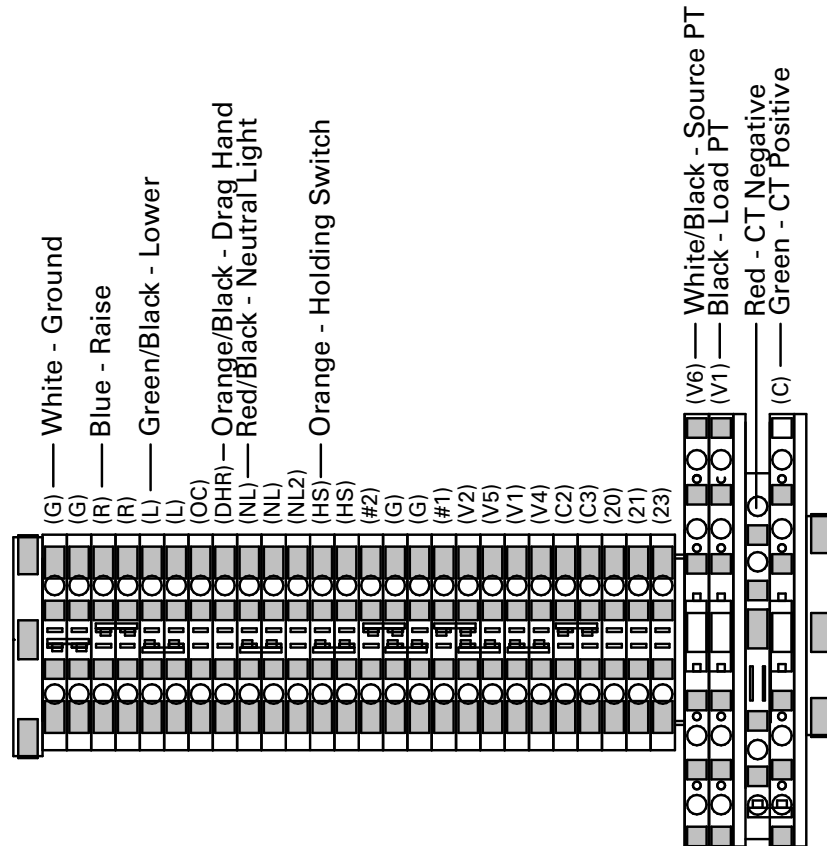

Figure 13. TB1 Eaton's connections.
14. Connect the remaining leads per Figures 13 and 14. A decal (see Figure 4) is located in the bottom of the control box as a reference for wiring connections from Eaton's voltage regulator to the CRA terminal board and switches. Eaton's connections are labeled in black.